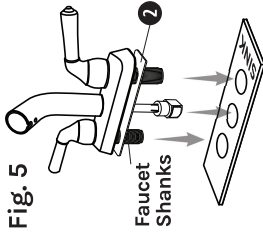

Fig. 5
2. Apply a thin bead of silicone sealant to the underside of the **Putty Plate** 2. Carefully slide the **Faucet Shanks** into the sink hole and position the faucet into the desired area (see Fig. 5).